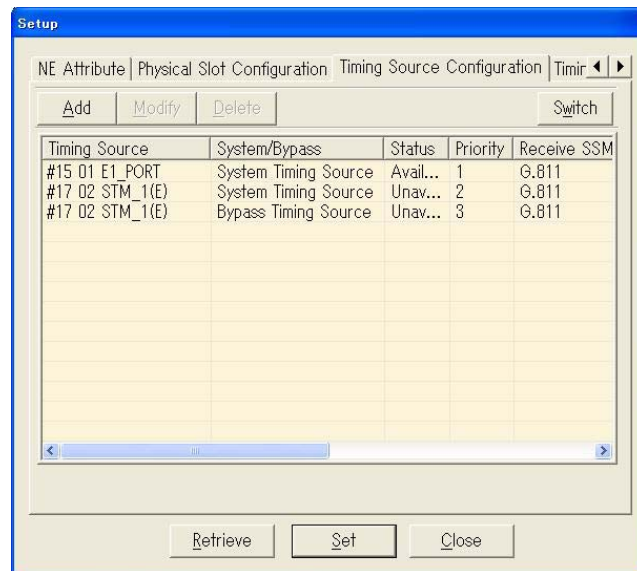

Fig. 4-4-4 Setup-Timing Source Configuration Dialog Box
- 1 Confirm that the **Setup-Timing Source Configuration** dialog box shown in *Fig. 4-4-4* is displayed: